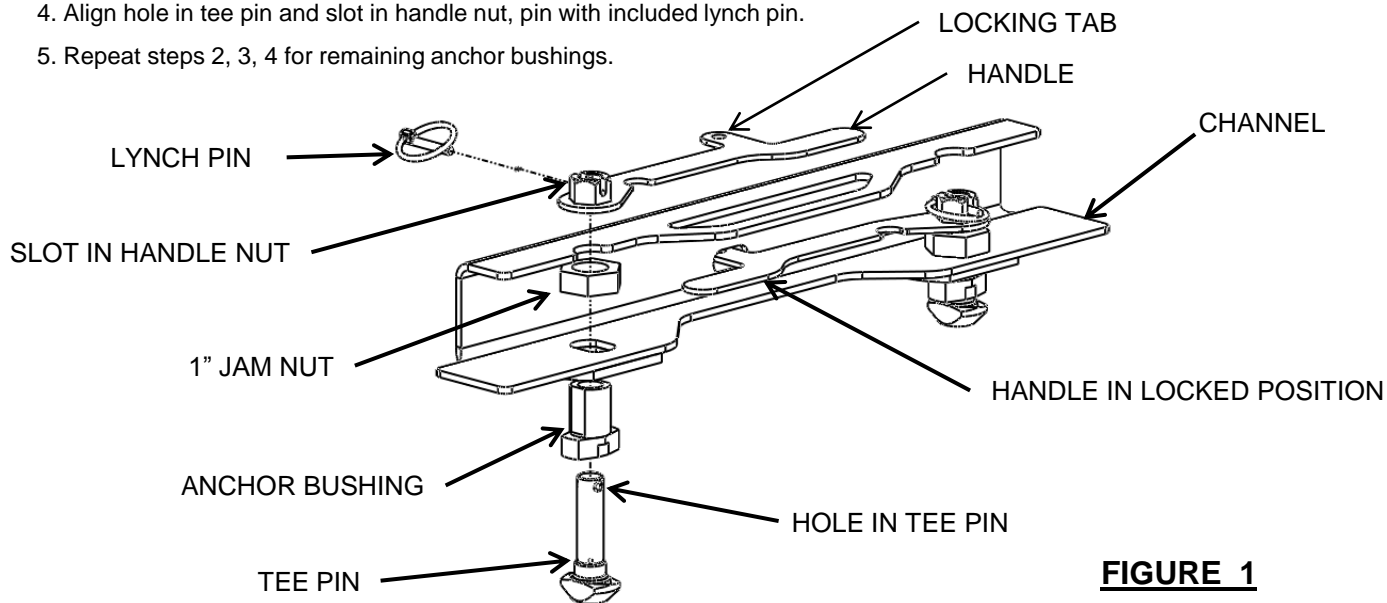

FIGURE 1
1. Assemble the four anchor bushings and the 1" jam nuts together (fig 1) and snug-fit (no vertical play in anchor bushing assembly), then go another quarter turn beyond contact point for proper torque requirement.
2. Once all of the bushings and jam nuts are tight, assemble the tee pin and handle as shown (fig 1). (NOTE) When handles are in locked position locking tab must protrude through slot in channel.
- If the adapter does not fall into under bed mounting kit, when handles are in unlocked position, the tee pin bushing needs adjustment. This can be done by loosening the four 1" jam nuts (refer to fig 1), while all nuts are loose drop into the under bed mounting kit. While in place tighten jam nuts as described in the "system assembly" section.